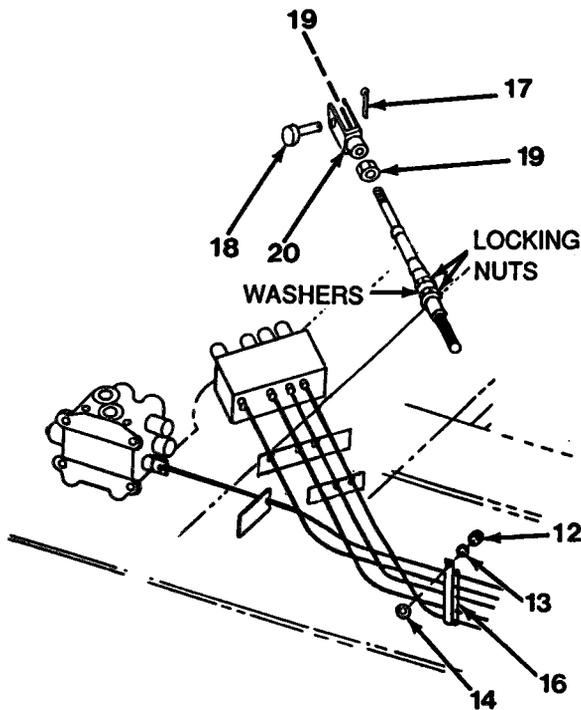

Figure 17-4
4. Install two jam nuts (19) and clevis (20, Figure 17-4) on end of cable. Thread two jam nuts (19) and clevis (20) to full threaded engagement. Tighten rear jam nut (19) to lock clevis (20) in place.
5. Position cable in place and install pin (18) and cotter pin (17).